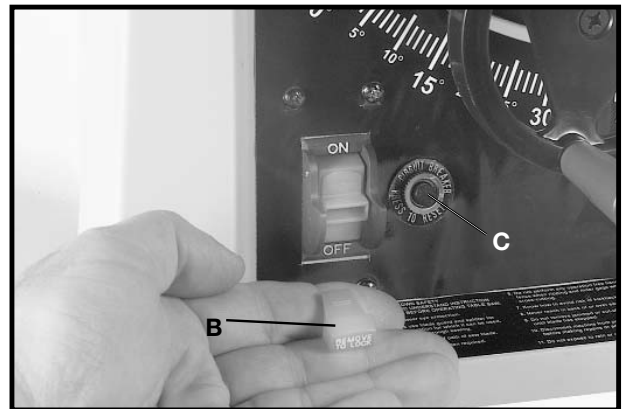

Fig. 30
IMPORTANT: When the tool is not in use, the switch should be locked in the “OFF” position to prevent unauthorized use. To lock the tool, grasp the switch toggle (B) and pull it out of the switch (Fig. 30). With the switch toggle (B) removed, the switch will not operate. However, should the switch toggle be removed while the saw is running, the machine can be turned “OFF,” but cannot be restarted without re-inserting the switch toggle (B).
Your saw is equipped with a reset button (C) Fig. 30. If the motor stops or fails to start due to over-loading (cutting stock too fast, using a dull blade, using the saw beyond its capacity, etc.) or low voltage, turn the switch to the “OFF” position. Let the motor cool three to five minutes. Push the reset button (C) to reset the overload device. The motor can then be started again in the usual manner.